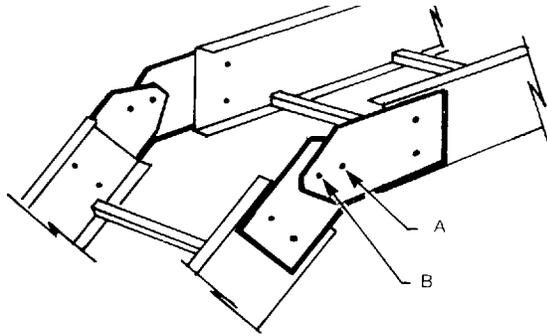

Figure 4.14A
4.3.3 Vertical Adjustable Splice Plates (See Figures 4.14A and 4.14B.)
- Position splice halves so that offsets adjust for material thickness and fasten with nut and bolt using hole (A).
- Drill to complete hole (B). Figure 4.14A only.